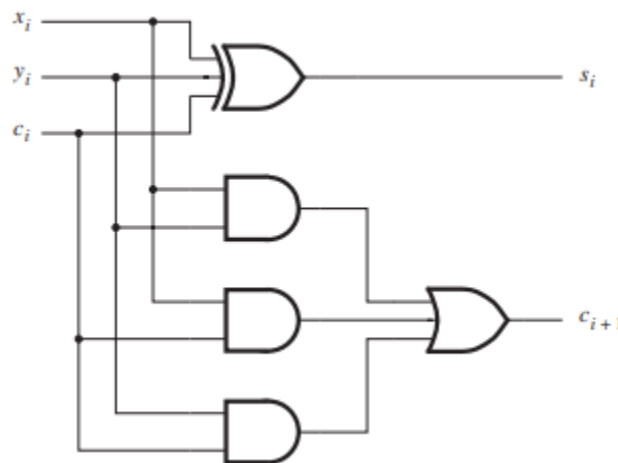

Fig.5.3:Full Adder Circuit
- Consider the full adder circuit shown in Fig.5.3., which has the inputs C_{in} , x , and y , and produces the outputs s and C_{out} .